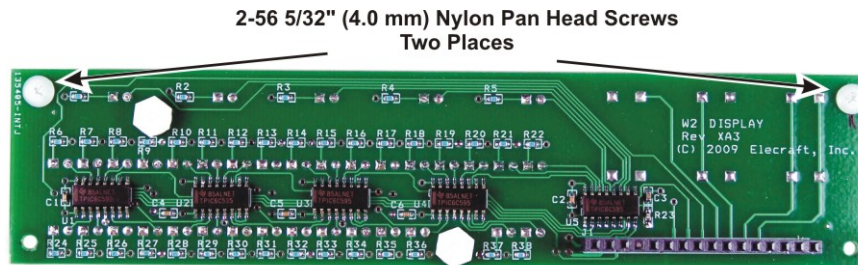

Figure 3. Nylon "Bumper" Screws in Front Panel Board.
□ Locate the display board assembly. **Handle the assembly carefully to avoid misaligning the LED's** Check the front panel board for a nylon screw at the two corners with its head toward the rear (side opposite the LEDs) as shown in Figure 3. If necessary install a 2-56 5/32" (4.0 mm) nylon screw at each location. These screws are inserted until the heads just touch the PC board. They don't hold anything. When the W2 is fully assembled, the heads of these screws serve as "bumpers" that press against 2D fasteners in the case to keep the front panel board from flexing when buttons are pressed.